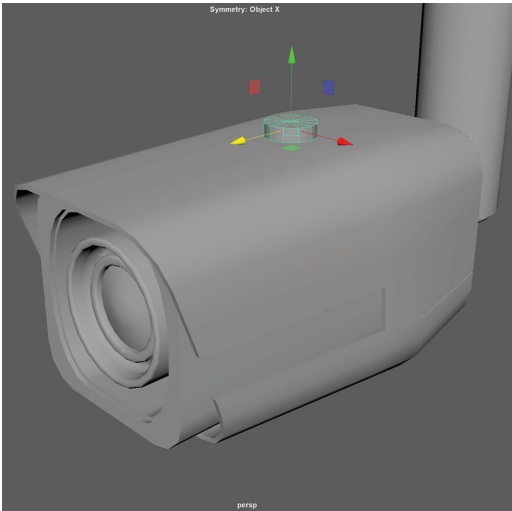

FIGURE 1.32 Roughing out the switch at the top using a cylinder.
Step 29: Top switch. Create a cylinder (Create-> Polygon Primitives->Cylinder). Move and scale it to the opening of the top shell of the camera. In the input section of the Channel box, click on the polyCylinder1 and change the Subdivision Axis to 12 (Figure 1.32).